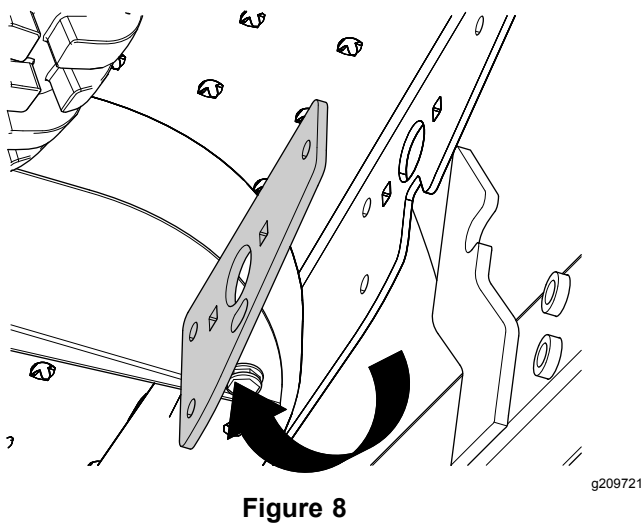

Figure 8
5. At the inboard side of the footrest flange, align the 3 holes in the pivot bracket to the 3 holes in the flange (Figure 8).